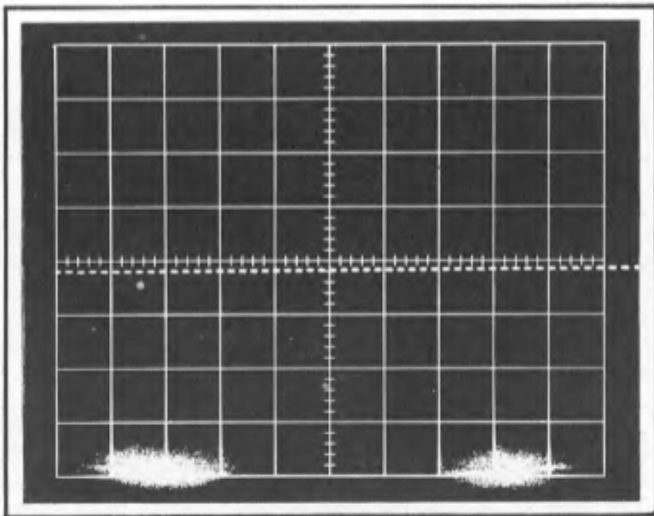

Fig. 7-30. Typical display of 12 dots/div with Samples/Div control turned fully clockwise.
b. Check that the trace consists of 12 dots/div or less. See Fig. 7-30.